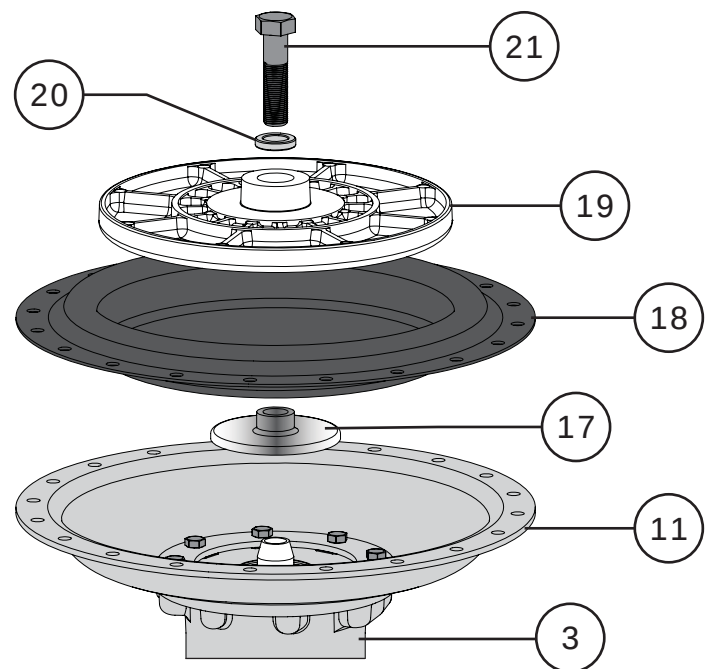

Figure 74 Upper Diaphragm Casing Detail
- 7 Remove the upper diaphragm plate (Key 19), diaphragm (Key 18), and lower diaphragm plate (Key 17). Refer to Figure 74.